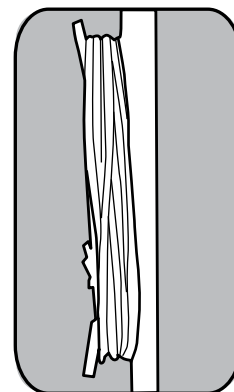

Fig. 2
3. Turn the upper cord storage hook to the upright position and wind the power cord around the cord storage hooks when storing the vacuum cleaner (Fig. 2).